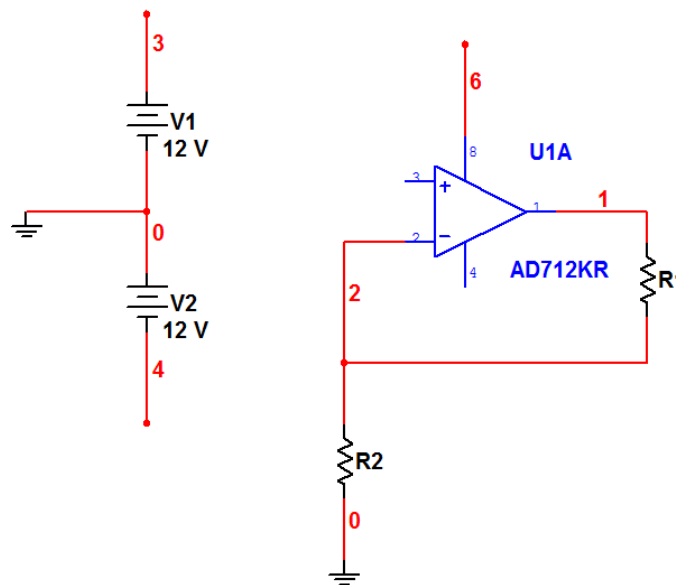

Figure 8. Wire the Components
2. Copy the existing ground. Select the ground symbol and press <Ctrl-C> on your keyboard. To paste the ground, press <Ctrl-V> below the R2 resistor (as seen in Figure 8).
3. Complete the wiring as shown in Figure 8. Do not worry about the labeled numbers on the wires (also called nets).